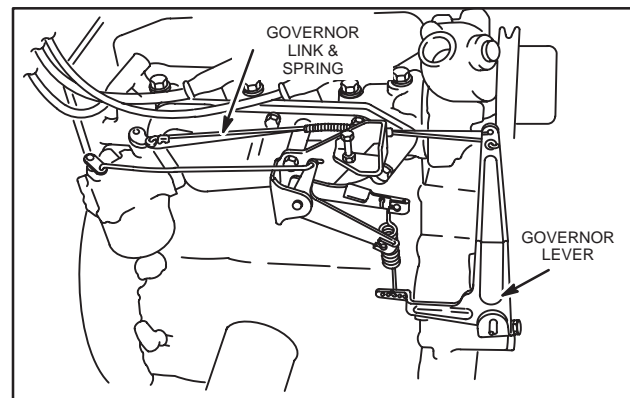

Fig. 24 – Installing Governor Lever
11. Install governor lever on to governor shaft, Fig. 24. Do not tighten governor nut at this time.